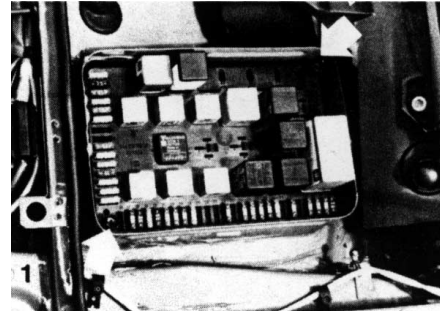

Figure 1
4. Remove phillips screws (arrow /Figure 1) and lift CEB from body.